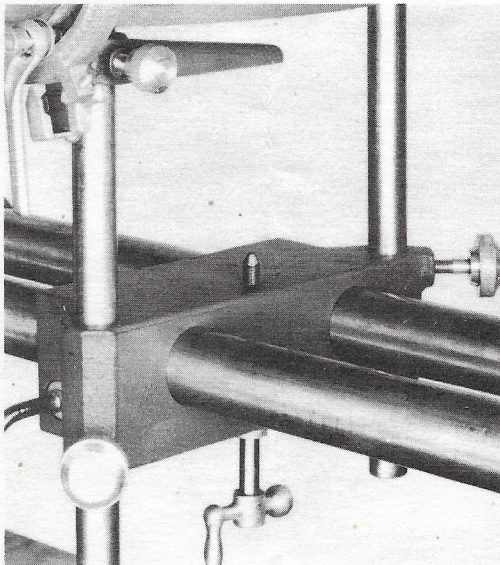

Fig. 1
1. Slide table raising arm to top of table rod; secure with knob. (Fig. 1)